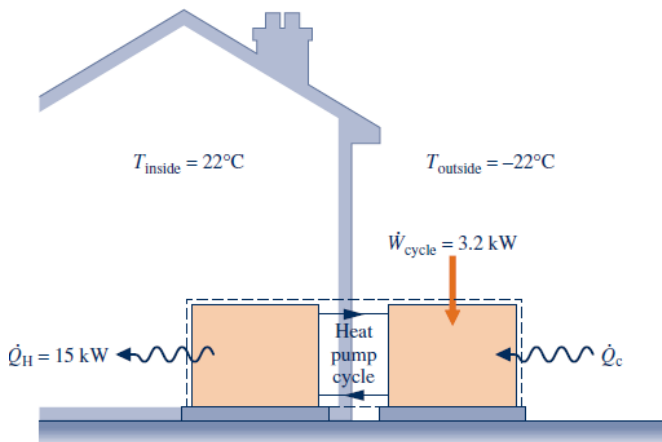

Fig. P6.77
6.77 The heat pump cycle shown in Fig. P6.77 operates at steady state and provides energy by heat transfer at a rate of 15 kW to maintain a dwelling at 22°C when the outside temperature is -22°C. The manufacturer claims that the power input required for this operating condition is 3.2 kW. Applying energy and entropy rate balances evaluate this claim.